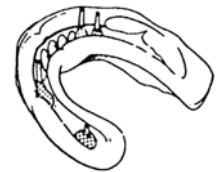

Fig. 17
21. The dentist must take an accurate passive impression (using silicone, rubber based material or plaster), incorporating the castings into the impression to create a model for the partial framework (Fig. 17).